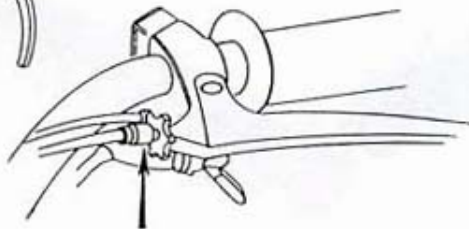

Fig. 3
- Tighten the brake adjuster at the handgrip fully (fig. 3).
If necessary, adjust the brakes using the adjusters on the levers (fig. 3).